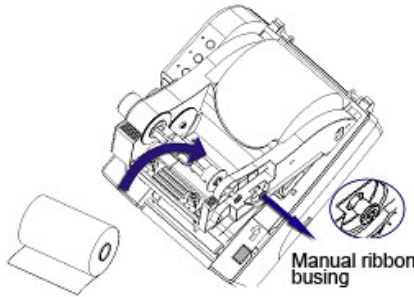

Figure 2.3.2
- 2) Lift up the ribbon holder to the position at about 30° (When a slight sound “flip-flop” is prompted, the ribbon holder will keep at this position). Pull the manual bushing outward slightly until the ribbon release shaft is at the original position, then release the manual bushing and the installation of ribbon release shaft is finished (See figure 2.3.2);